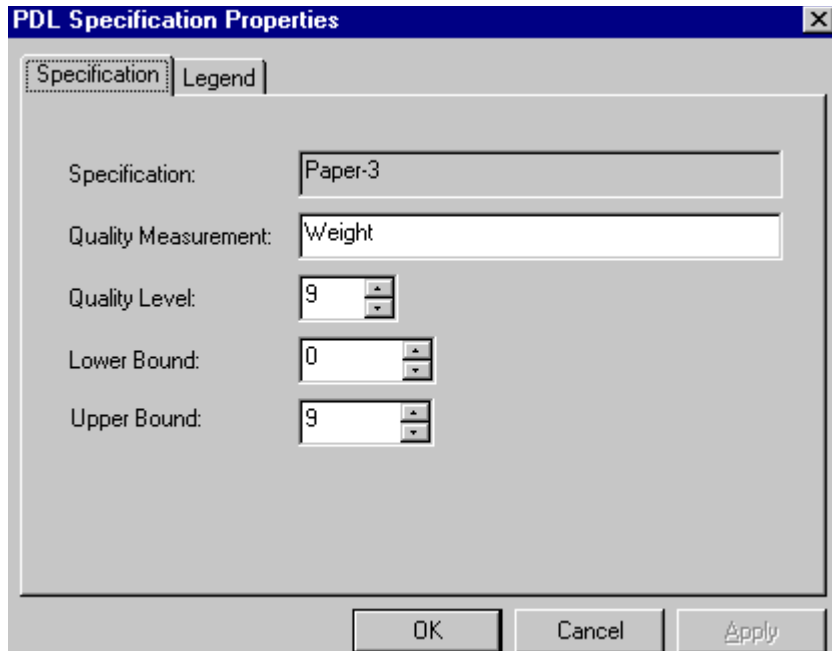

Figure 20. PDL Specification Properties - Specification Tab
6. As in step 4, give the new specification a meaningful name. After you press ENTER to accept the name, the PDL Specification Properties dialog is displayed, Figure 20.
7. Use the **Specification** tab, Figure 20, to label the quality measurement, specify the number of contour levels and specify the upper and lower bounds.